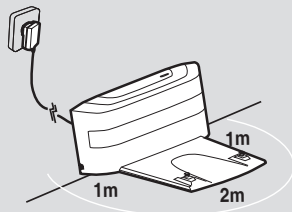

Fig. 2
Plug in the mains power adaptor and connect to the charging station. **[Fig. 2]**
3. There should not be any objects in the area around the charging station for 2 meters in front and 1 meter to each side. **[Fig. 2]**